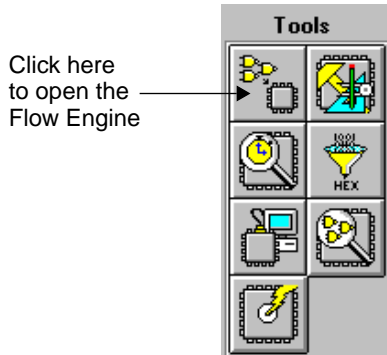

Figure 3-22 Opening the Flow Engine
- Click on the Flow Engine button in the Design Manager's tool box (see Figure 3-22) to open the Flow Engine.